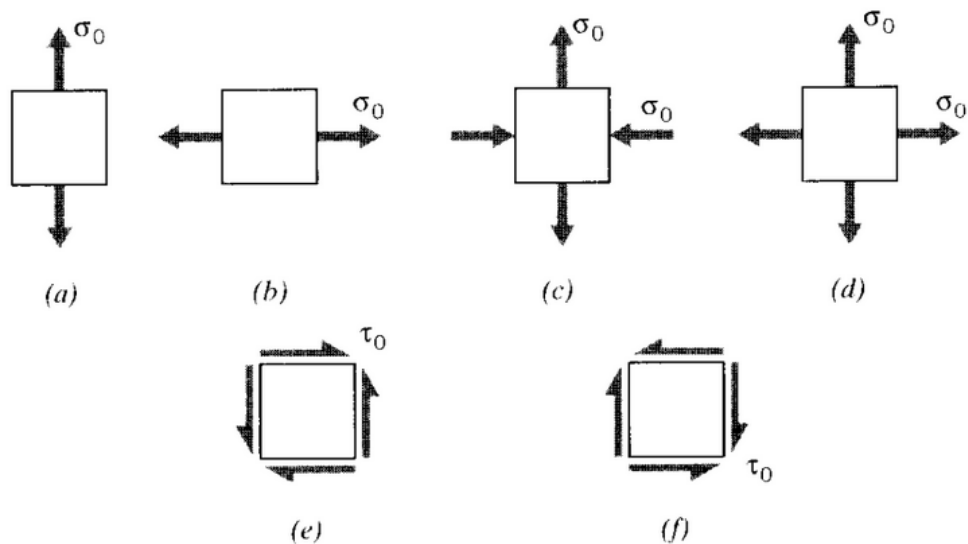

Figure 3: Different state of stress
4. Give practical examples corresponding to each of the stress states shown in Fig. 3 and sketch the Mohr's circles. For each case, explain the usefulness of the Mohr's circle. Assume suitable numerical values for $\sigma_0 > 0$ and $\tau_0 > 0$.